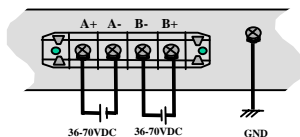

Figure C5.0: -48VDC Dual-Source, wiring connections to the External Terminal Block on a Magnum -48VDC with Dual-Source option
This section describes the proper connection of the -48VDC, 24VDC & 125VDC dual source leads to the -48 VDC, 24VDC and 125VDC power terminal block on the Magnum 3000s (shown in Figure C5.0)
The -48VDC terminal block on the Magnum 3000s, as shown in Fig C5.0 is located on the left rear of the unit and is equipped with five (5) screw-down lead posts. The primary terminals are identified as positive (A+), negative (A-), and the secondary power terminals as negative (B-), positive (B+). The chassis “earth” or ground (GND), is a threaded post with a #6 nut. The Dual source terminal blocks for 24VDC and 125VDC are similar.